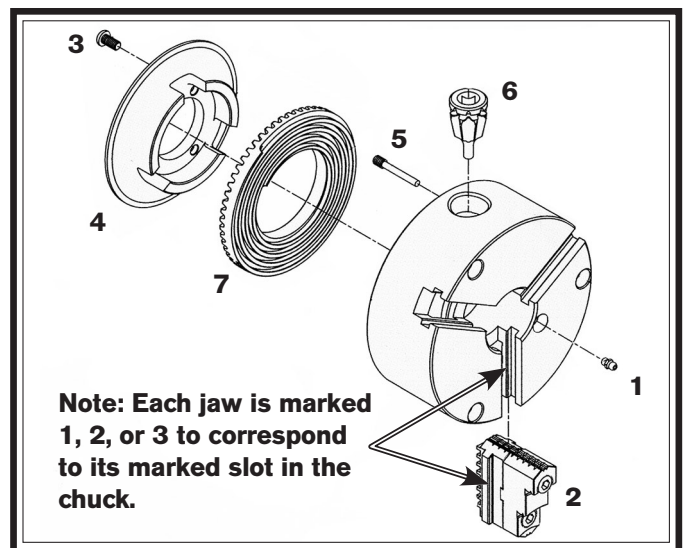

Figure 2. Chuck sequence of disassembly.
4. Using a basic set of metric hex wrenches and a #1 standard screwdriver, start at #1 and disassemble the chuck in the sequence shown in **Figure 2**.
7. Coat all parts with any automotive NLGI #2 grease, and carefully reassemble the chuck in the reverse order shown in **Figure 2**.